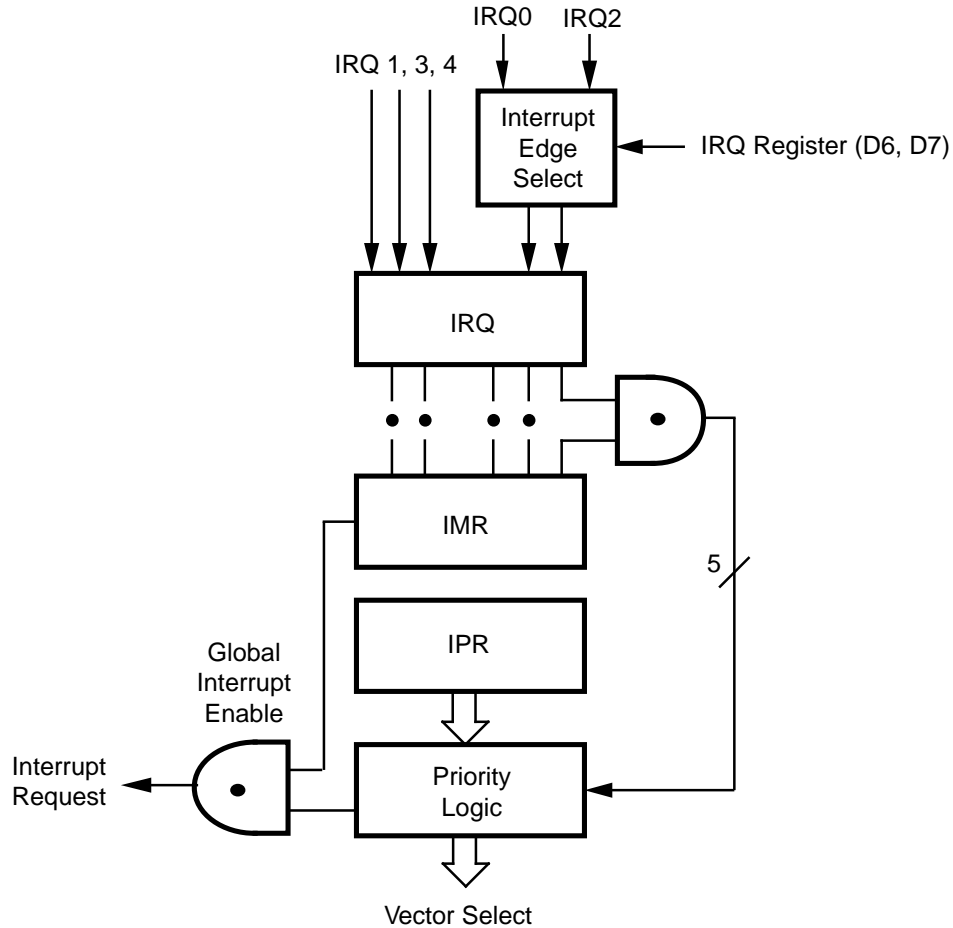

Figure 35. Interrupt Block Diagram
**Interrupts.** The Z86L7X/CX2 has five different interrupts. The interrupts are maskable and prioritized (Figure 35). The five sources are divided as follows: three sources are claimed by Port 3 lines P33-P31, the remaining two by the